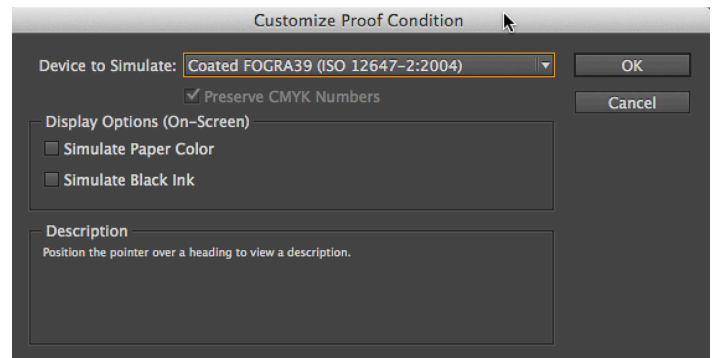

Figure 46
4. If your CMYK document is going to be printed in one of the two color spaces shown (Document or Working CMYK), select one of those profiles. If you have a profile for a specific destination, such as a specific print house, paper and ink combination, be sure the profile is installed, and then select **Custom** instead of the Document or Working CMYK. The Customize Proof Condition window (Figure 46) appears. It allows you to select any installed profile to simulate how your document will print on a device and paper combination. You can also choose to simulate the color of the paper, checking the box in the dialog box, which usually results in a darker preview on-screen, showing the effect of the particular chosen paper on your color.